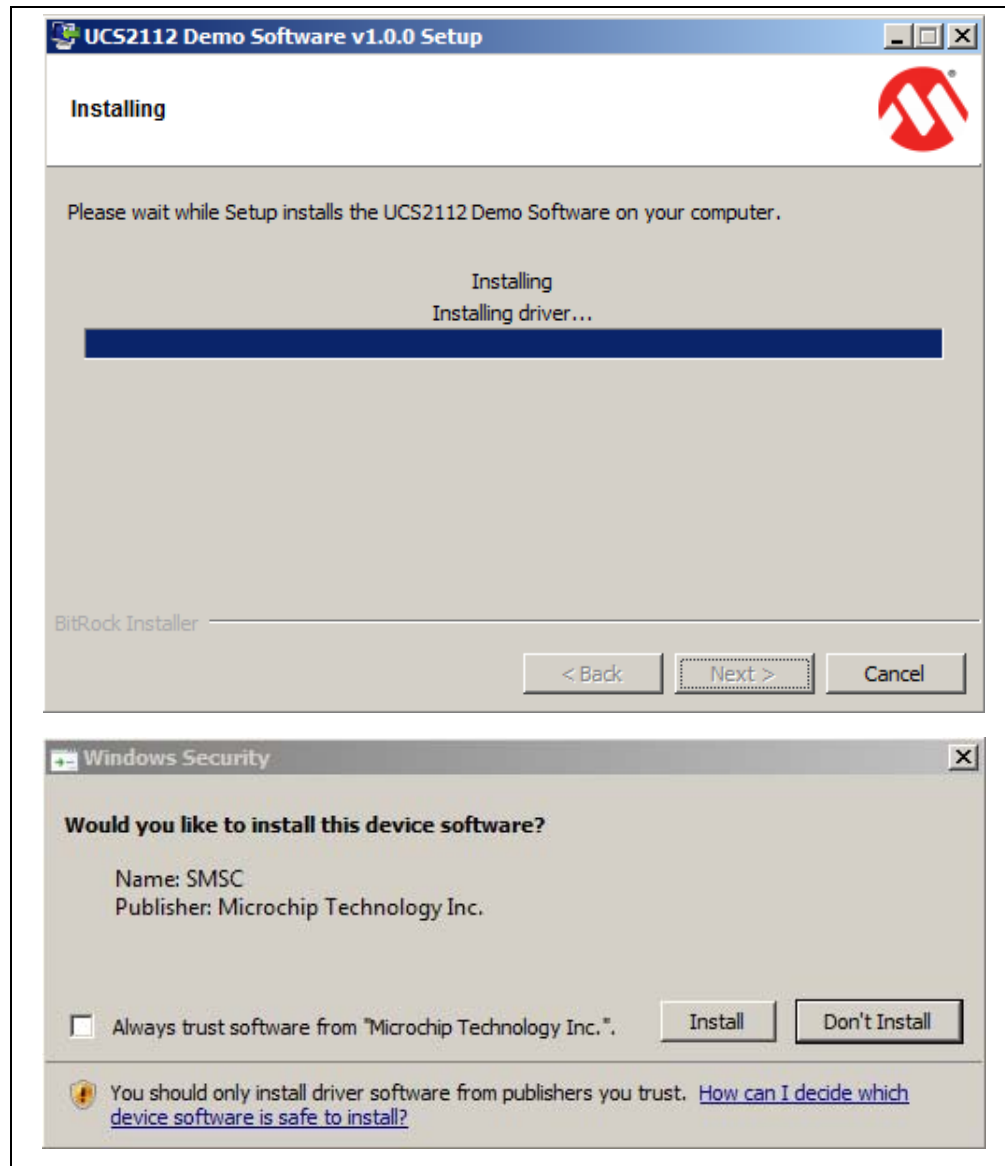

FIGURE 2-8: Installing the GUI.
4. Click **Next** in the Ready to Install window to begin the software installation. The progress can be observed in the progress bar (see Figure 2-8).